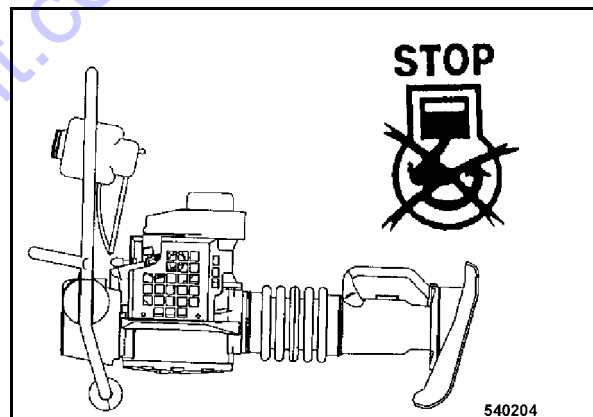

Fig. 27
- Transport the tamper only lying down (Fig. 27) on the castors.